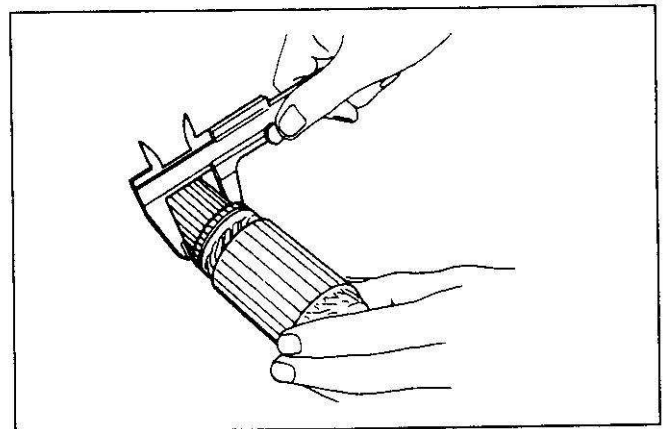

Figure 29. Measuring Commutator Outside Diameter
- Commutator outer diameter. The diameter must not be less than 42 mm (1.654 in) (figure 29).